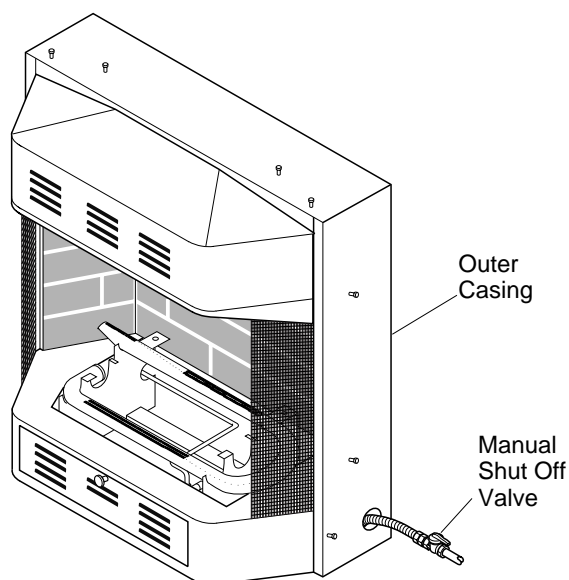

Figure 22 - Routing Flexible Gas Line
1. Route flexible gas line (provided by installer) from manual shutoff valve into fireplace through side or rear access holes in outer casing (see Figure 22).